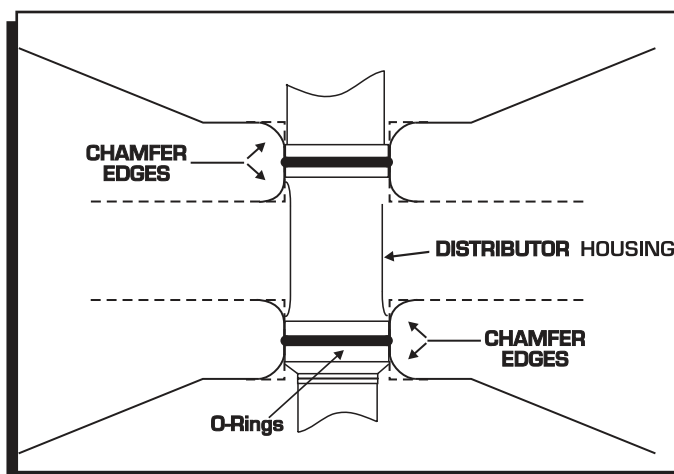

Figure 6 Modified Block for use with O-Rings.
7. Install the gasket and apply a liberal amount of the supplied lubricant to the distributor gear. (The supplied O-rings can **only** be used if the block has been modified as shown in Figure 6.)